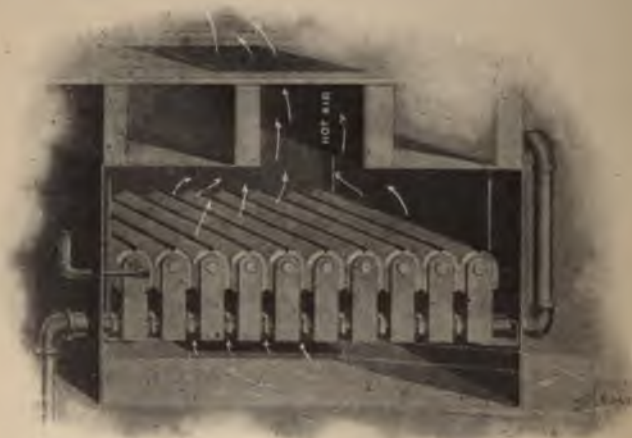

Fig. 17.—An Indirect Radiator.
A. Indirect radiators are located outside of the room to be heated and warm the room indirectly by warming a supply of air which is then introduced into the room through a duct and register. They are commonly located below the room to be heated although they may be located adjacent to it. The radiator is encased in a boxing and a cold air supply from outside the building connects with the boxing. Fig. 17.